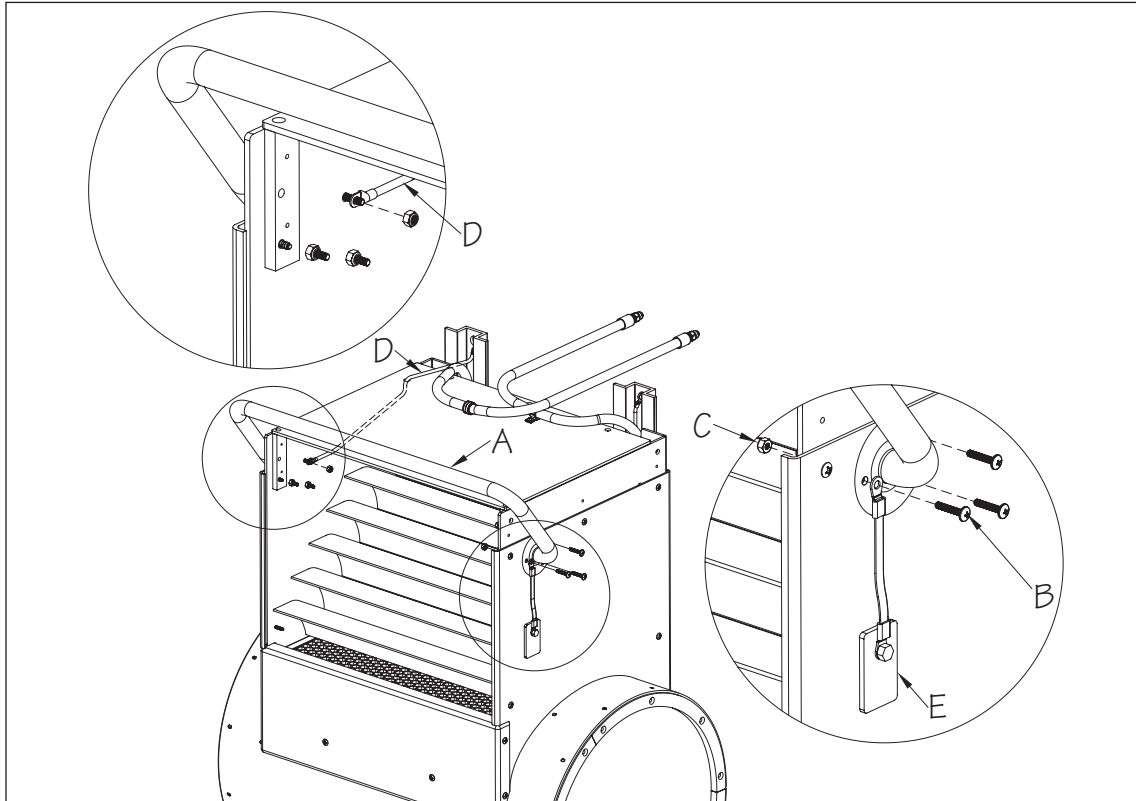

Fig. 4
2. Position the Grab Bar (A) on the Current Unit, aligning the holes in the flanges with the corresponding holes on each side of the unit. Machine screws (B) and Nuts (C) are used to secure the Grab Bar. On the left side, there is a pre-attached #8 Solid Copper Bonding Wire (D). Attach the wire to one of the screws before installing the nut (Fig. 4).
If the Fastlane Pro is being installed into a pool using a salt-chlorine generator, the Sacrificial Anode **MUST** be installed to combat the corrosive nature of the salt. Secure the lanyard of the anode to one of the screws on the right side of the unit. **THE ANODE SHOULD ONLY BE USED IN SALT POOLS** (Fig. 4).